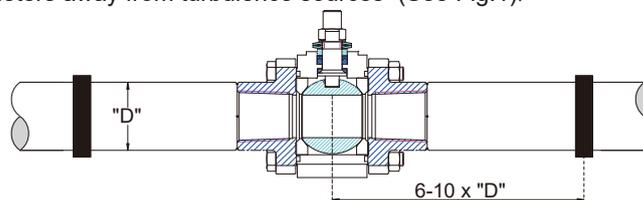

Fig.1
- Install at least 6 pipe diameters away from turbulence sources (See Fig.1).